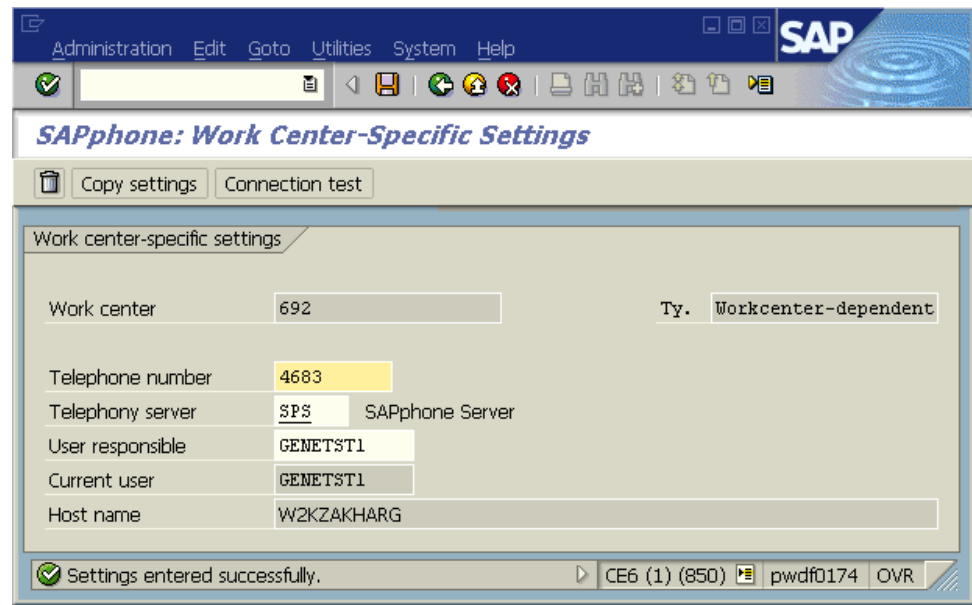

Figure 20: SAP: SPPH - Work Center-Specific Settings Screen
1. On the Work Center-Specific Settings screen, define the Telephone number and the Telephone server boxes. Figure 20 shows an example of this screen.
- On the Work Center-Specific Settings screen, define the Telephone number and Telephone server boxes. Figure 20 shows an example of this screen.